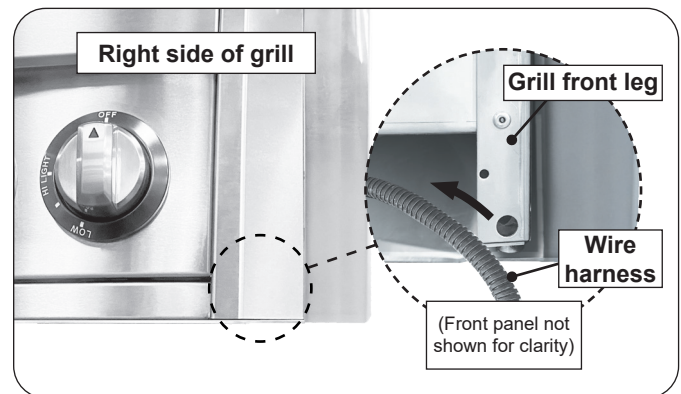

Fig. 19-2 Route wire harness
- Route the wire harness extension down the left side of the grill front leg (see Fig. 19-2). Routing the harness on the right side of the front leg will cause pinching and damage to the wiring.